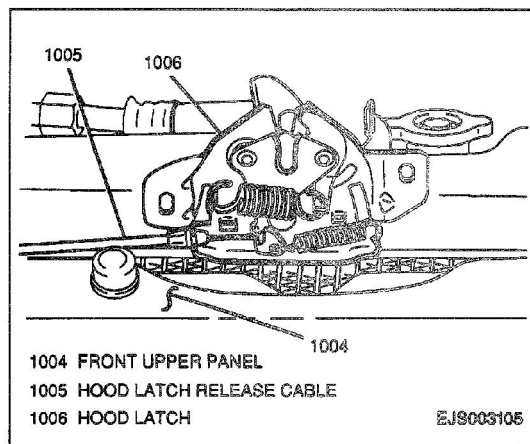

Figure 3—Hood Latch
4. Two bolts and hood latch from body (Figure 3).
- 4. Hood latch to body; secure with two bolts (Figure 3).